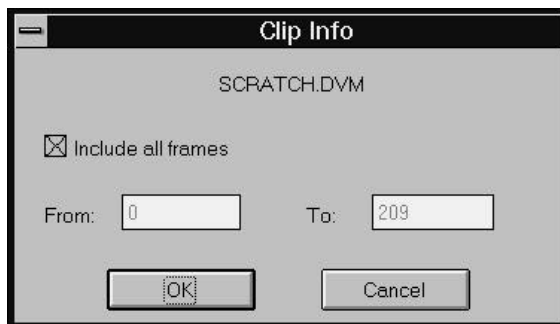

Figure 4-3 Clip Info Window
- The Clip Info Window (Figure 4-3) appears. If you wish to use the entire file, select Include All Frames (Box is checked). If not, deselect Include All Frames (box is *not* checked), and in the From: and To: boxes, enter the starting and ending frame numbers you wish to use.